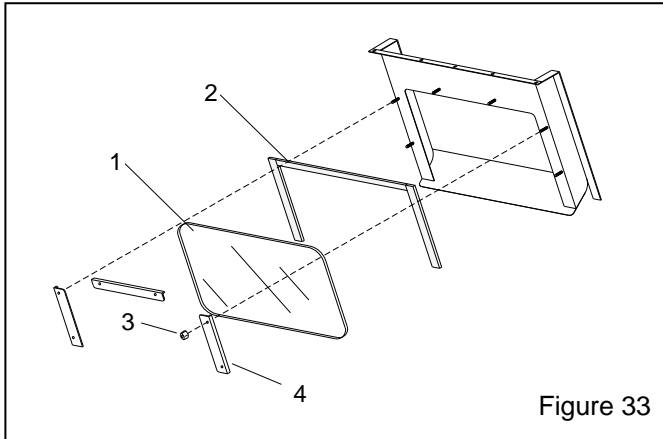

Figure 33
10.3 ClearView™ Window Assembly – Figure 33